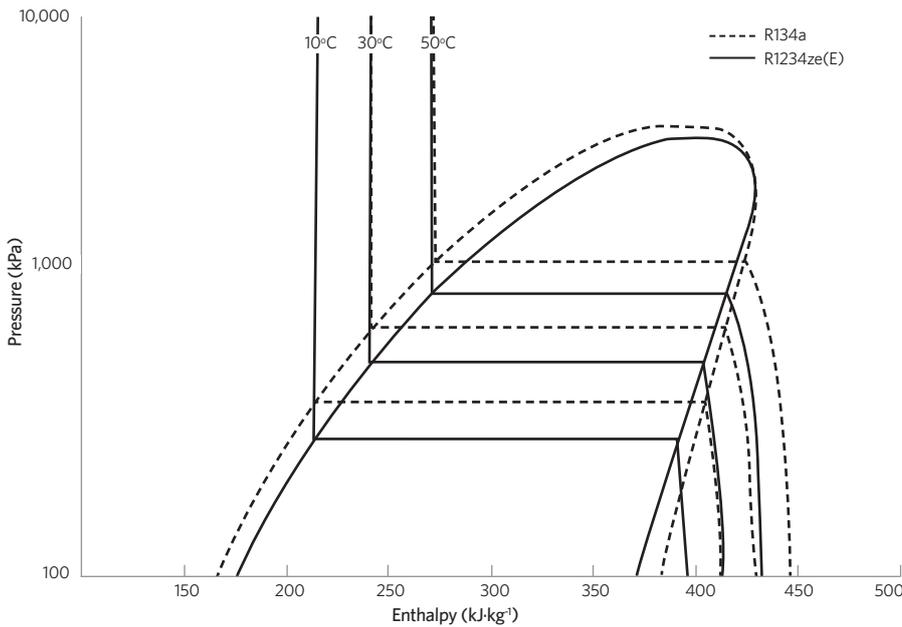

Figure 1: Pressure-enthalpy diagrams for R134a and R1234ze(E)
The principal HFO that has been applied for non-vehicle refrigeration is R1234ze(E), while R1234yf, typically, has been applied in vehicle mobile air conditioning (MAC). R1234ze(E) has operating conditions and costs in line with R134a – as indicated in the pressure-enthalpy diagrams for R134a and R1234ze(E) in Figure 1, and the key attributes in Table 5 – but with ultra-low GWP. Its performance is such that it can replace R134a in new equipment, where its lower volumetric capacity can be addressed in the design of the equipment.